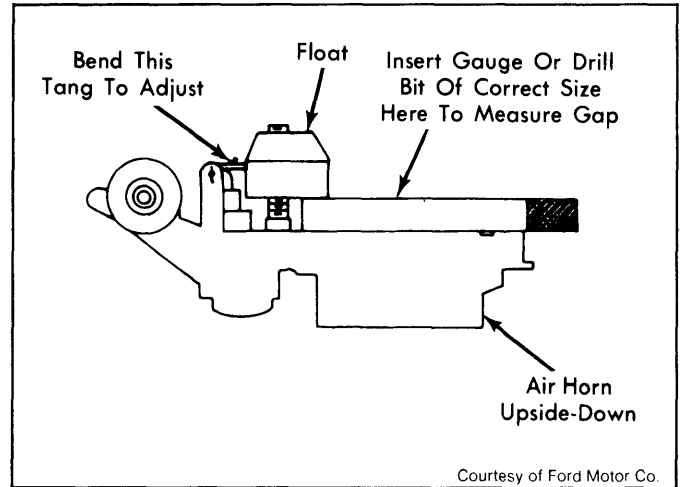

Fig. 1: Float Level Adjustment
1) Remove air horn and gasket. Turn air horn upside-down. Allow weight of float to press down against float needle valve. See Fig. 1.